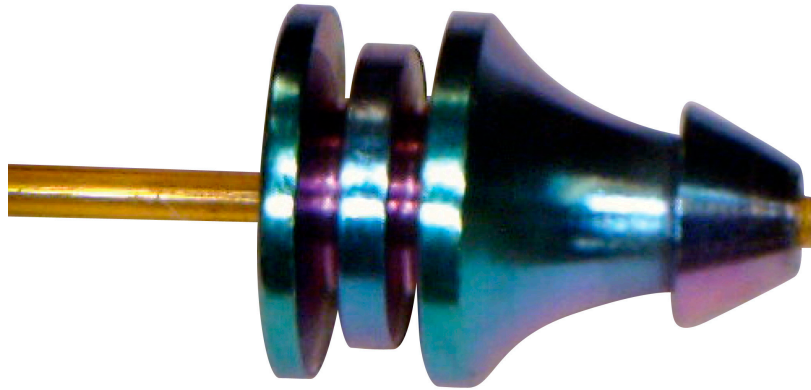

Figure 6 Properly-trimmed column and ferrule
- 6 Using the column cutter, trim the column at the small end of the ferrule leaving approximately 0.3 mm of the column extending from the ferrule (Figure 6). The minimum size of the column head extending from the ferrule is 0.1 mm and the maximum is 0.5 mm. It is important to have 0.5 mm or less column head to prevent column conflict in the union.